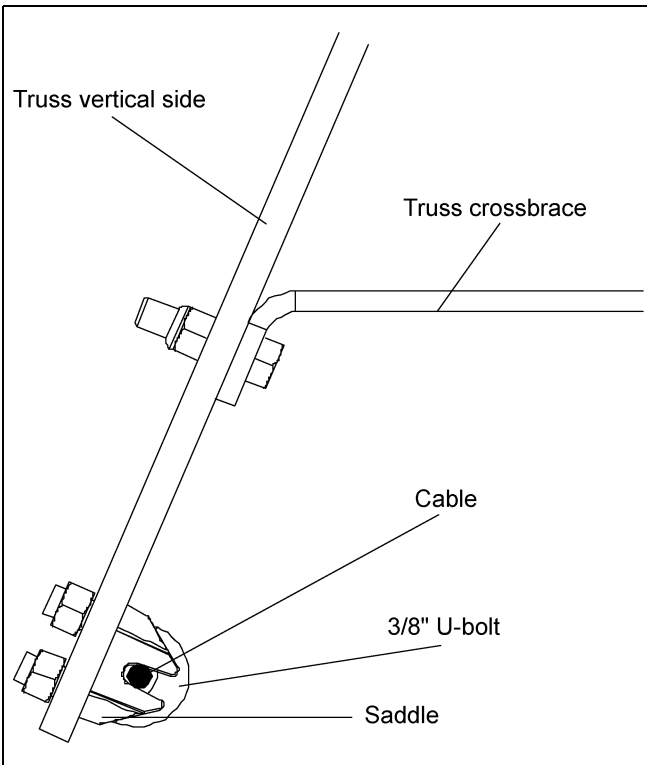

Figure 4 Truss and Cable Clamp Detail
Step 7: Run the cables to the truss assembly and attach them to the truss sides using 3/8" cable clamps. *(See Figure 4 on Page 3.)* **DO NOT** tighten 3/8" cables clamps down at this time.
Step 8: Loop cables through eyes in eye bolts and fasten together using two (2) cable clamps per each cable.